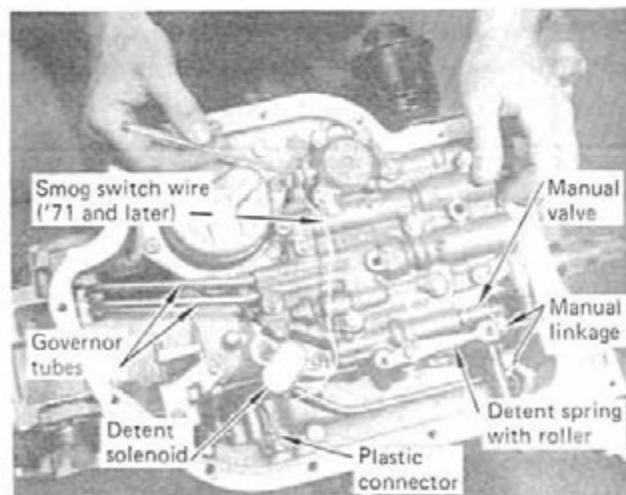

FIGURE 5
STEP 2. Observe the location of the following: (See Fig. 5) Manual linkage (shifter) detent spring and roller, engagement
Type 3: '71 and later smog two-terminal type. One wire goes to the detent solenoid and the other separate white wire goes to a pressure switch on the valve body. (See Fig. 5)